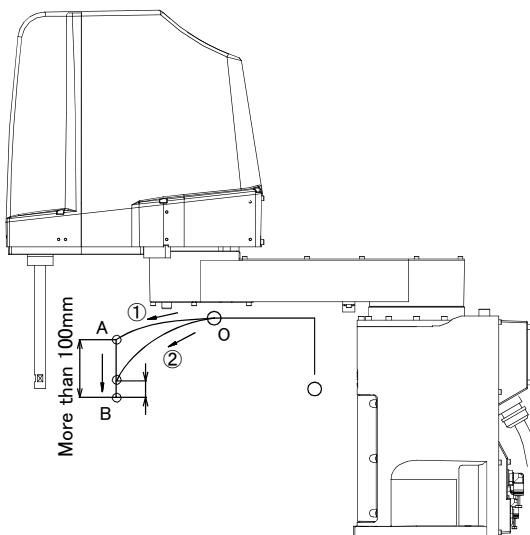

Fig.2-7 : Recommended path when positioning at the bottom edge of the Z axis
- 3) When positioning the work near the bottom edge of the Z axis, if no effectiveness is achieved in step "2)" above, perform operation ① (robot path: O → A → C). In the case of operation ② (robot path: O → B → C), residual vibration may occur. (Refer to Fig. 2-7.)